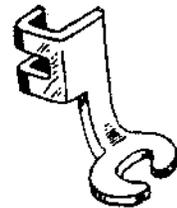

Fig. 25
1. Remove presser foot and attach button sewing foot. See Fig. 25